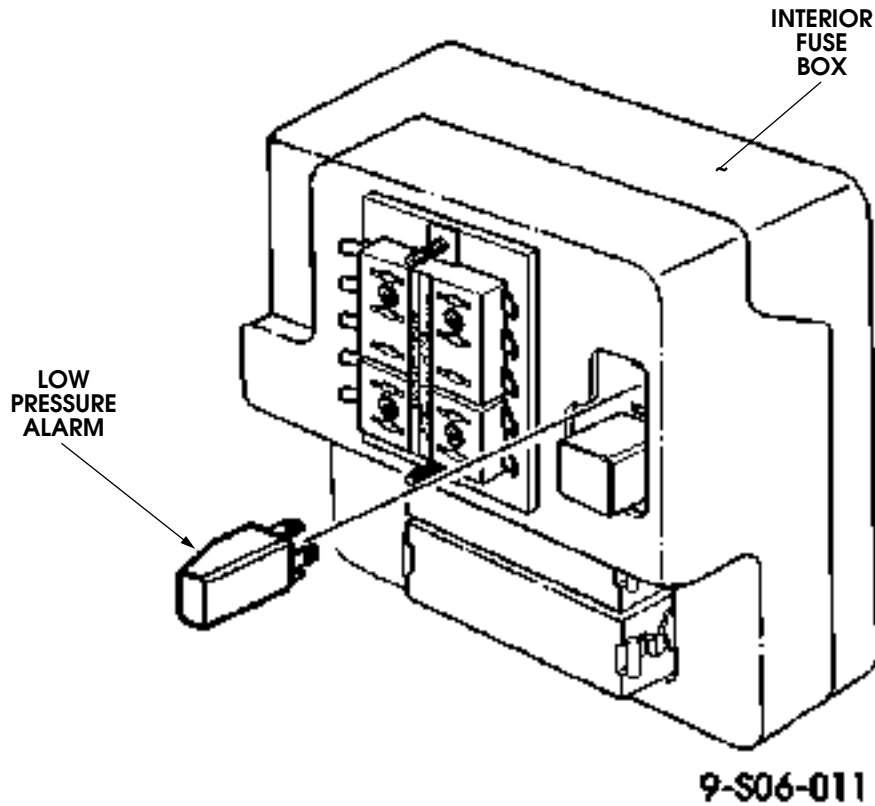

Figure 6-59: Low Pressure Alarm Location
2. Remove the low pressure alarm from the face of the interior fuse box (Figure 6-59).